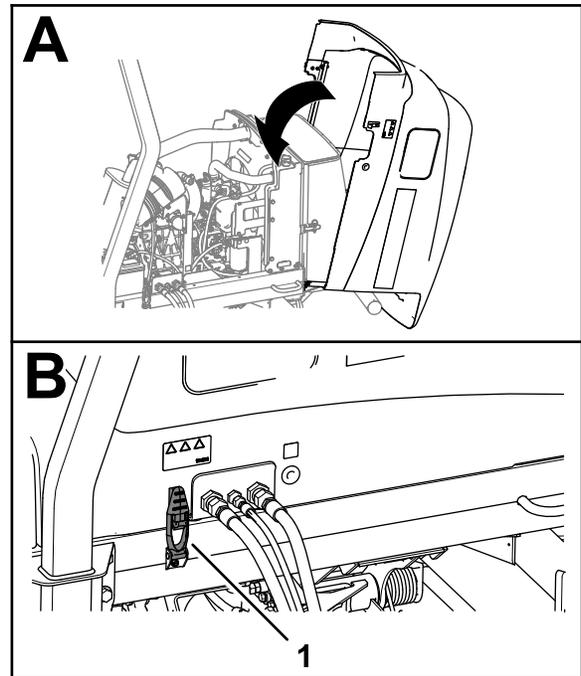

Figure 61
1. Carefully rotate the hood closed (Figure 61).